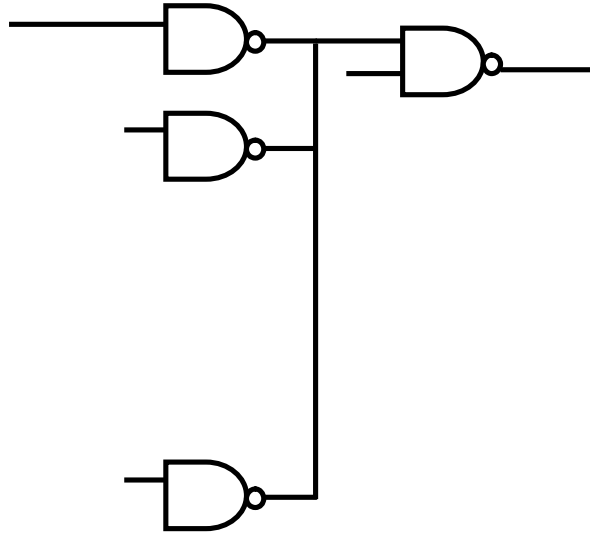

Figure 7 Fan in of logic gate
11. **Fan in:** This is the number of inputs of a logic gate. It is decided by the input current sinking capability of a logic gate as shown in Figure 7.